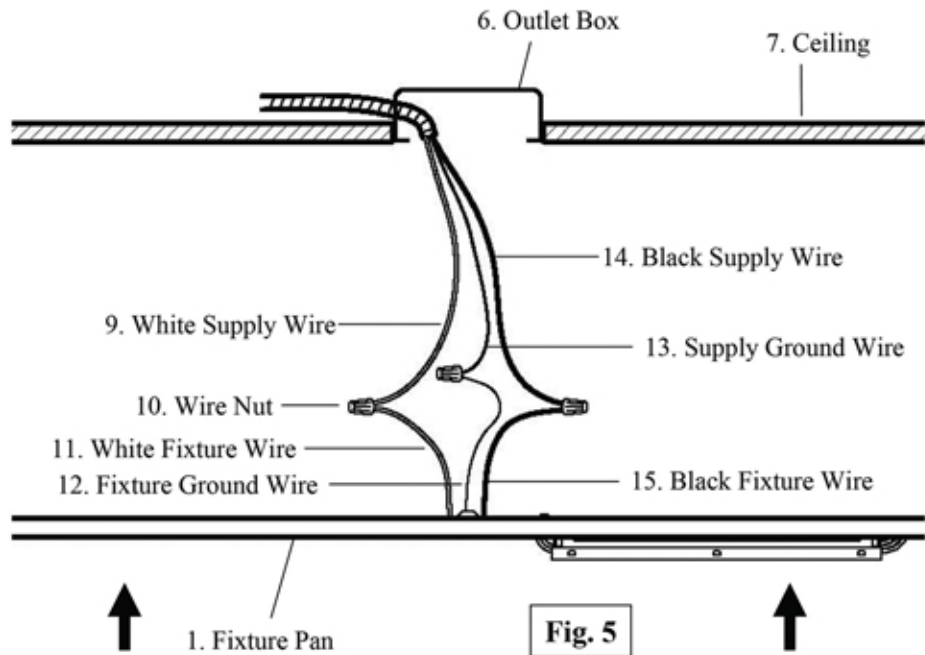

Fig. 5
4. Pull the power supply wires out from the Outlet Box (#6). Attach the Black Supply Wire (#14) to the Black Fixture Wire (#15) and the White Supply Wire (#9) to the White Fixture Wire (#11) using Wire Nuts (#10). Connect the Fixture Ground Wire (#12) and the Supply Ground Wire (#13) together using a Wire Nut (#10). **(Fig. 5)** Wrap all wire connections with electrical tape for a more secure connection. *Note: If you have electrical questions, consult your local electrical code for approved grounding methods.*